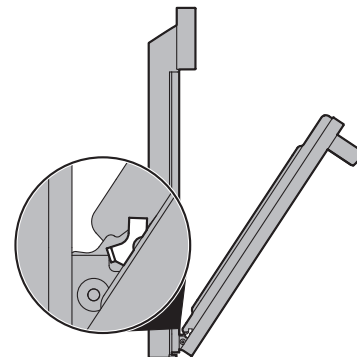

Figure 21: Removal position
2. Hold the oven door at the same angle as the removal position (Figure 21) Carefully insert the hinge levers into the oven frame until you feel the hinge levers are seated into the hinge notches. The hinge arms must be fully seated into the hinge notches before the oven door can be fully opened.